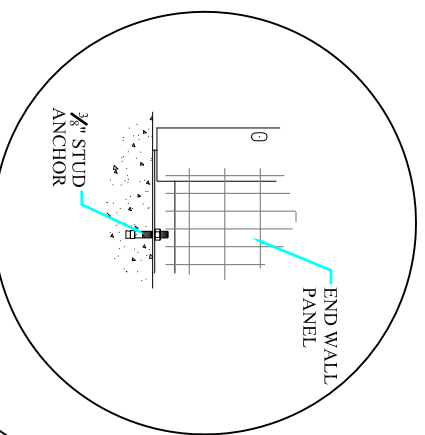

Fig. 2
2. End Wall Panel (A) mounts to floor per Fig.2 using two 3/8" stud anchors
2. Side Wall Panel (C) mounts to floor per page 4, Fig. 2 using two $\frac{3}{8}$ " stud anchors provided.